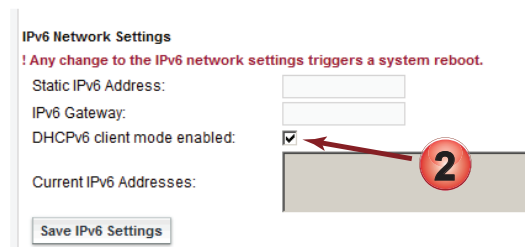

Figure 5-7: Tick Box for IPv6 DHCP
2. In the IPv6 Network Settings section, click the tick box if IPv6 DHCP is required, else leave unticked, Figure 5-7.